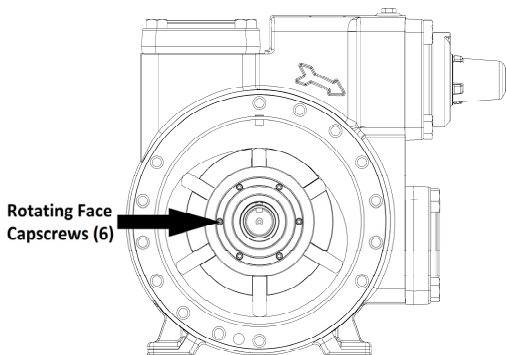

Figure 3 – Rotating Face Capscrew Removal (Plan 52)
1. Remove head ring (20) by removing all capscrews (21) and separating from casing (12).
2. Loosen rotating face capscrews (153K) and remove. See Figure 3.